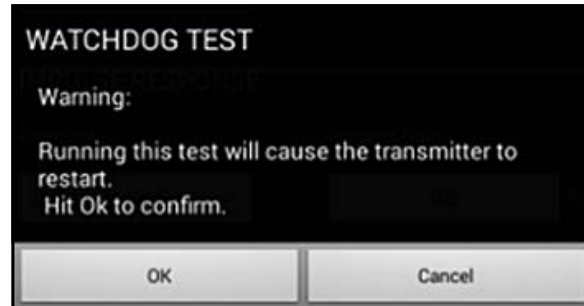

Figure 143: Watchdog Test Warning
2. A properly functioning PT900 restarts if the Watchdog Test is run, and a warning message similar to *Figure 143* below is displayed.